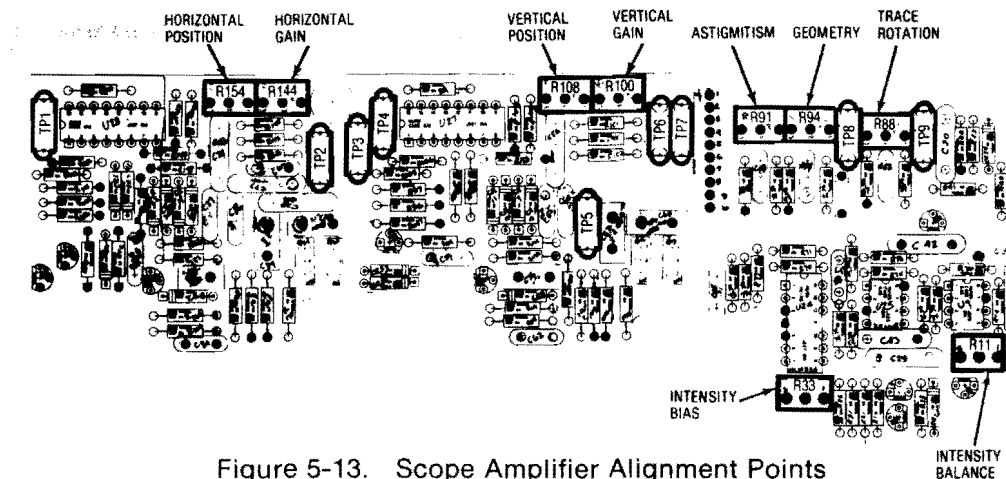

Figure 5-13. Scope Amplifier Alignment Points
2. While using the Focus Control to maintain a focused display at the center of the CRT, adjust the Astigmatism and Geometry potentiometers (Figure 5-13) for the best focus at the outer edges of the CRT while minimizing the pincushion and barrel distortion of the display. The two adjustments are interactive so that repeated small adjustments alternated between the two potentiometers will be required to obtain the best display.
2. Adjust the Intensity Bias potentiometer (Figure 5-13) until a dot appears on the screen. (The Vertical and Horizontal Position Control on the front panel may have to be used to bring the dot on to the screen.) Then back off the Intensity Bias potentiometer until the dot just disappears.
2. Adjust the Intensity Balance potentiometer (Figure 5-13) for uniform intensity of the horizontal trace from left to right. The Balance potentiometer affects the intensity on the left side of the trace.
2. With the Test Point Shorting Jumper connect TP1 of the Scope Amplifier Board (Figure 5-13) to chassis ground.
3. Adjust the Horizontal Position Potentiometer (Figure 5-13) so that the vertical trace on the CRT screen passes through the graticule center point.
2. With the Test Point Shorting Jumper connect TP4 of the Scope Amplifier Board (Figure 5-13) to chassis ground.
3. Adjust the Vertical Position Potentiometer (Figure 5-13) so that the horizontal trace on the CRT screen passes through the graticule center point.
3. Connect an oscilloscope with a calibrated vertical input to TP1 on the Scope Amplifier Board. (Figure 5-13).
5. With 3V p-p at TP1 adjust the Horizontal Gain Potentiometer (Figure 5-13) for a horizontal trace 6 cm long on the CRT. (Use the front panel controls to position the trace at a convenient place near the center of the CRT).
4. Connect an oscilloscope with a calibrated vertical input to TP4 on the Scope Amplifier Board. (Figure 5-13).
6. With 3V p-p at TP4 adjust the Vertical Gain Potentiometer (Figure 5-13) for a 6 cm p-p sinewave on the CRT. (use the front panel Position Controls to center the waveform on the CRT).